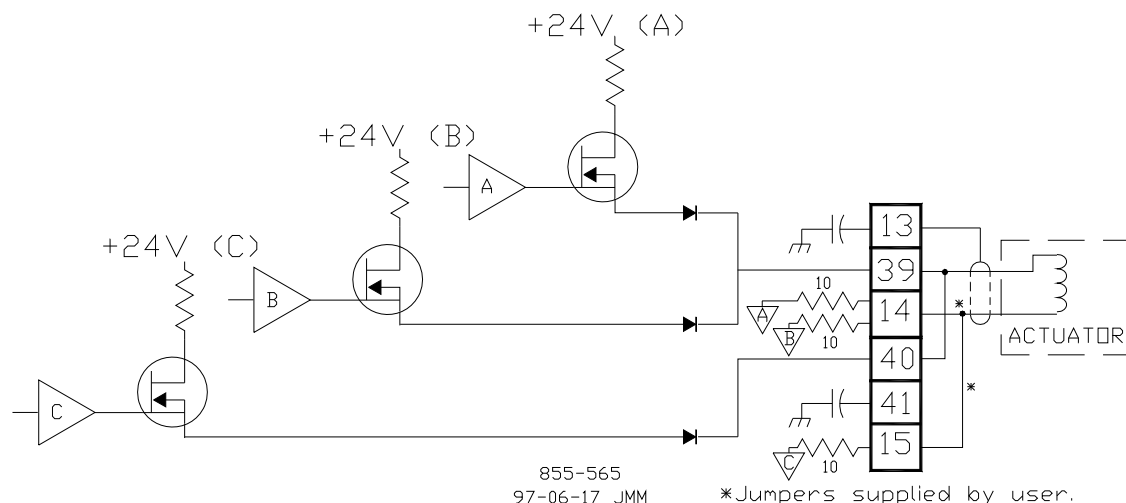

Figure 4-11. Example Single Coil Actuator Wiring Diagram
The 5009FT Control is designed to use redundant actuator outputs for each actuator or servo. Actuator output field wiring terminations are made at the terminal strips provided on the Actuator Field Termination Modules. Each Actuator FTM has termination points for two actuator output drivers and two RVDT or LVDT position feedback devices. Although each FTM may drive two actuator outputs, for reasons of redundancy the two actuators driving a single valve will originate from different FTMs. When redundant actuator outputs are used, redundant position resolver feedbacks are not supported. For a dual coil actuator, one driver should be wired to each coil. For a single coil actuator, wire the redundant drivers in parallel to the coil. Refer to Figure 4-11 for supported position resolver schematics.
- Figure 4-11 gives feedback schematics.
Latent fault detection (LFD) is not usable with all applications or circuits. The control's LFD logic can only work with circuits using voltages between 18–32 Vdc, 100–150 Vdc, or 88–132 Vac. For LFD to work, a small leakage current is passed through the circuit's load. See Figures 4-11, 4-12, and 4-13. Depending on the size of the load, the leakage current may be enough to cause a load to be on or active, when a relay contact is open. In this case, the individual relay's LFD logic may be disabled, eliminating the leakage current.